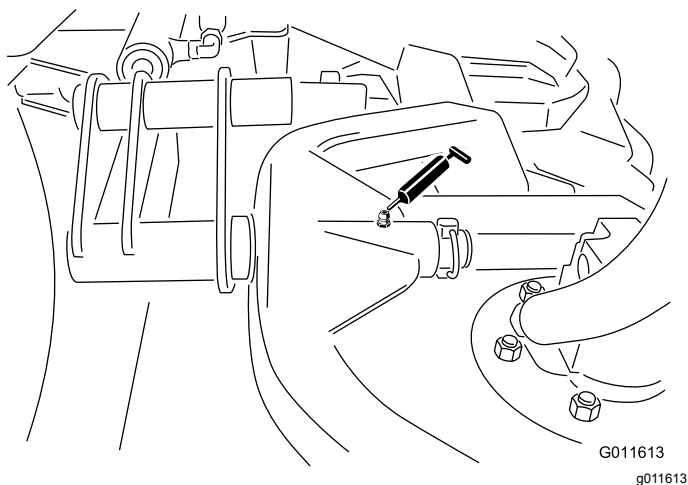

Figure 31
- Cutting unit carrier-frame pivot (1 each)—Figure 31